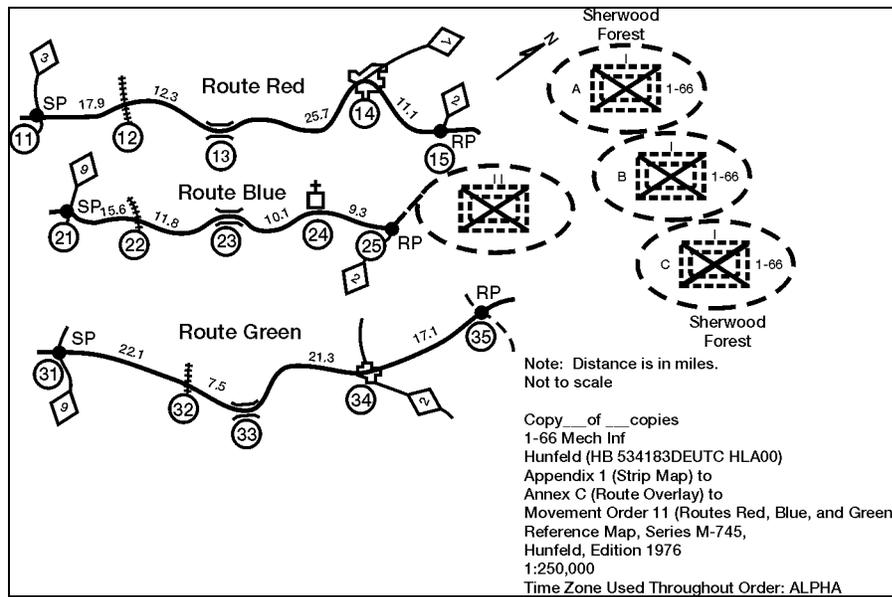

Figure 3-85. Multiple Route Strip Map
- (3) A strip map used as an appendix or annex could have many routes on it and could include bypasses for each route (see Figure 3-85).
- (4) A strip map may indicate a sketch of a march, which may or may not be drawn to scale.